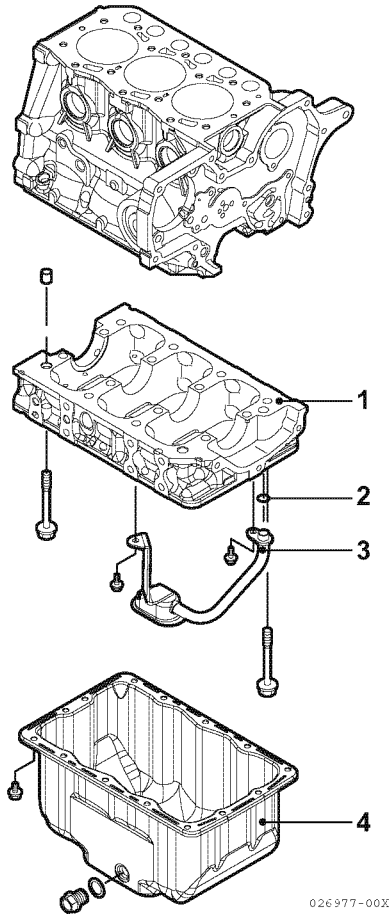

Figure 6-47
2. Remove the oil pan (**Figure 6-47, (4)**).
3. Remove the ladder frame (**Figure 6-47, (1)**).
4. Remove the oil pickup tube (**Figure 6-47, (3)**) and O-ring (**Figure 6-47, (2)**).